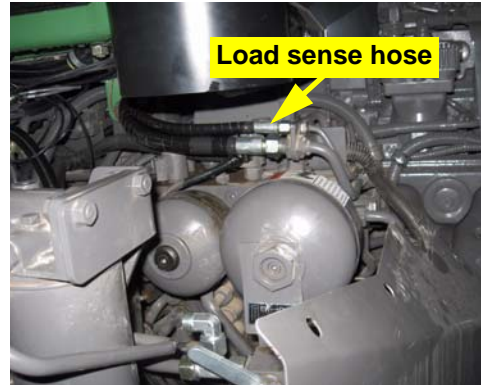

Figure 6b: Load sense hose location
- b. Locate the load sense hose next to the pressure hose on the right hand side of the machine above the steps (Figure 6b).